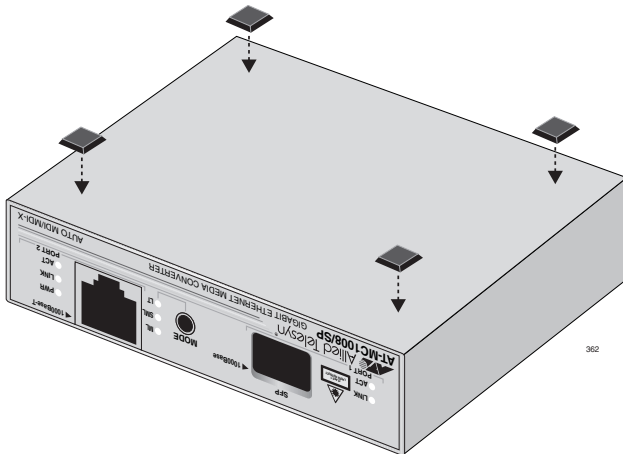

Figure 13. Attaching Rubber Feet
3. Attach the rubber feet, as shown in Figure 13.